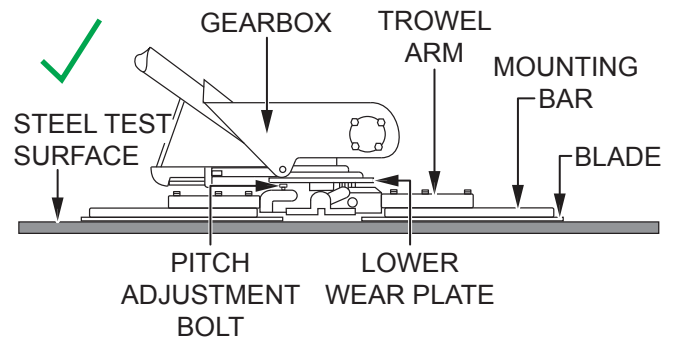

Figure 45. Blades Pitched Flat (Correct)
2. Pitch the blades as flat as possible (Figure 45). The pitch adjustment bolts should barely contact (0.10 inch maximum clearance) the lower wear plate. All adjustment bolts should be spaced the same distance from the lower wear plate. If any one of the bolts does not make contact, adjustment is necessary.